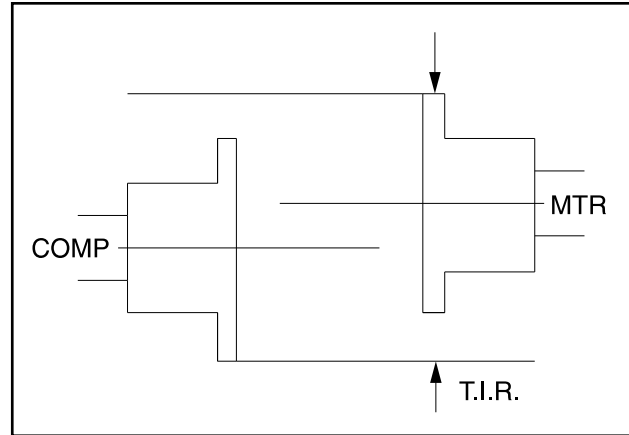
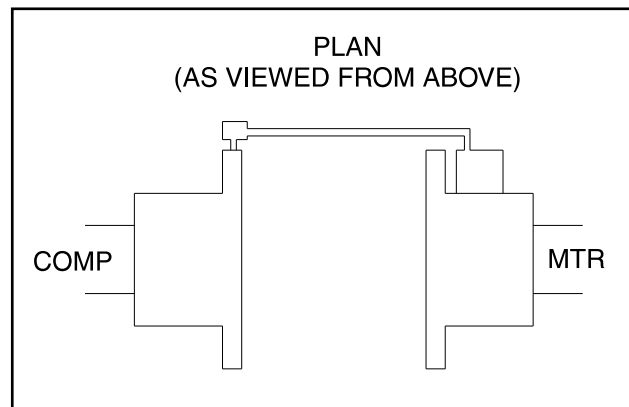

Figure 4 - Parallel Misalignment
Figure 5 - Dial Indicator Attached (At 9 O'clock)
6. To check parallel alignment, as shown in Figure 4, reposition dial indicator so the stem is in contact with the rim of the compressor hub, as shown in Figure 5.
Set indicator at zero and rotate both coupling hubs together 180° (9 o'clock position), as shown in Figure 5.